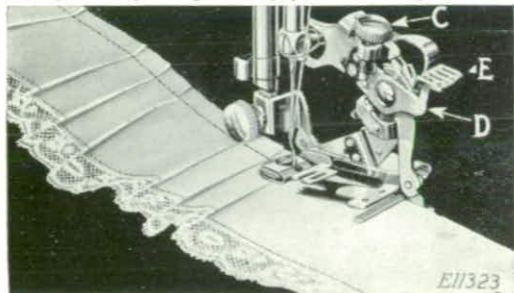

FIG. 7.
right so that the top of the projection (D) enters the small slot indicated by the star on the adjusting lever. This should be done at the points where you wish to make the space between the plaits. The ruffler will then stop and plain stitching will be made. When the desired space has been made, adjust the lever (E) so that the projection (D) enters either the slot marked "6" or the slot marked "12." By alternately making groups of plaits and plain spaces, as shown in Fig. 7, very attractive work can be produced.
Occasionally apply a drop of oil to the working parts of the ruffler at each of the places indicated by the unlettered arrows in Fig. 7. After oiling, operate the ruffler on a waste piece of material to prevent the oil soiling the work. If the ruffler does not plait evenly, a drop of oil may remedy the trouble.